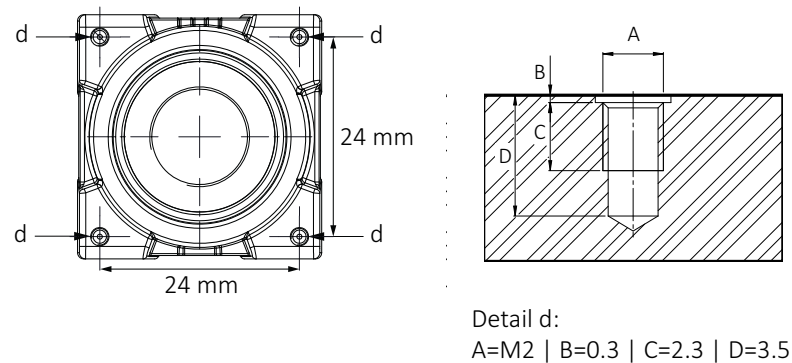

Figure 62: Camera front with mounting threads (d)
1. Mount the camera to the base using suitable M2 screws at 0.23 Nm maximum torque for a thread engagement (C) of 2.3 mm between screws and mounting threads, see Figure 62. For technical drawings, see G1 Closed Housing: Technical drawings on page 162.